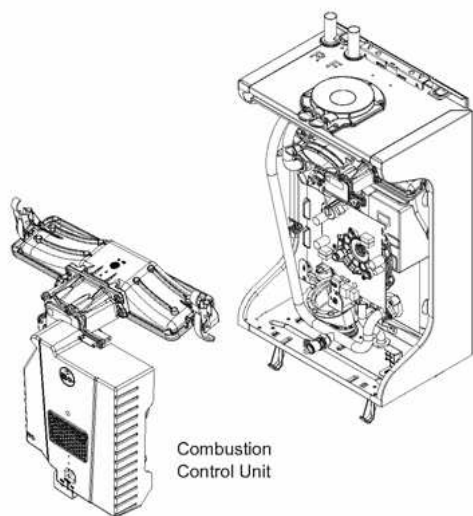

Fig. 54
10.3.10 Gas Valve (Figs. 54, 55 & 56)